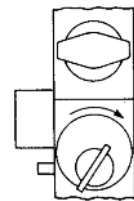

Figure 3-5
- B. To allow access again through a combination code, insert key, turn clockwise approximately 45°. Return the key to the pull position and remove (**See Figure 3-5**).